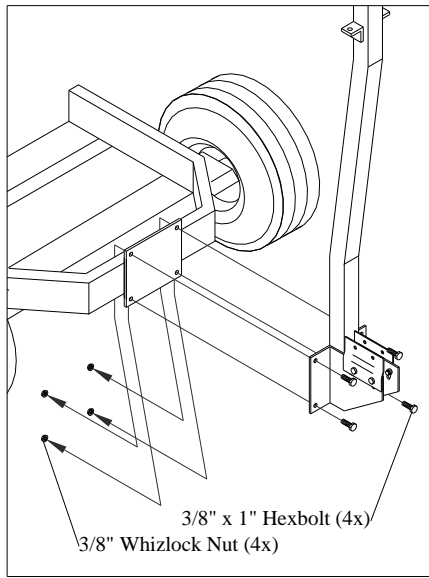

Fig. 2
2. Attach vertical upright (3) to container frame bracket with 3/8" x 1" HHC and whizlocks. Do not tighten. **Fig. 2**